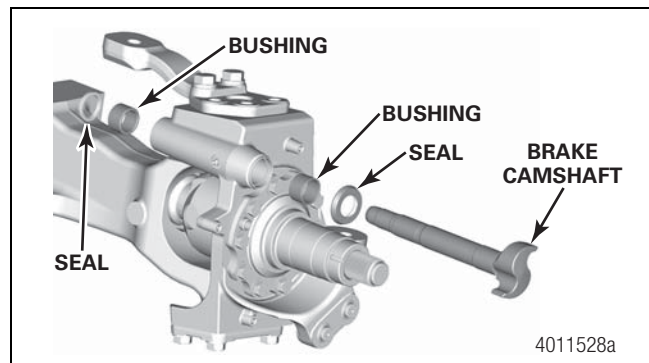

Figure 4.20
3. Remove the brake camshaft seals, bushings and the brake camshaft from the steering knuckle. Figure 4.20.